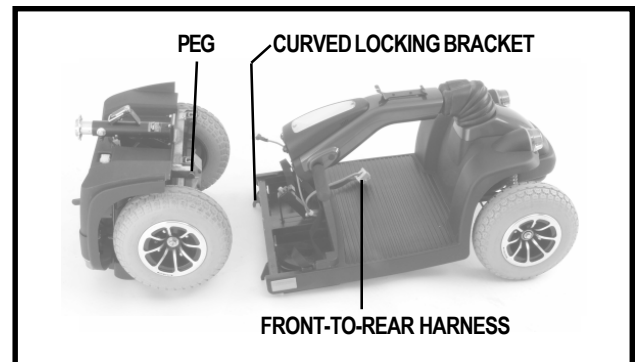

Figure 19. Frame Sections
3. Carefully move the front section away from the rear section. See figure 19.
1. Position the front and rear sections of your scooter as shown in figure 19.
2. Align the lower slots of the front section with the corresponding pegs on the front of the rear section. See figure 19.
NOTE: Position the front-to-rear harness so it won't become pinched between the frame halves when pivoting the rear section forward. See figure 19.